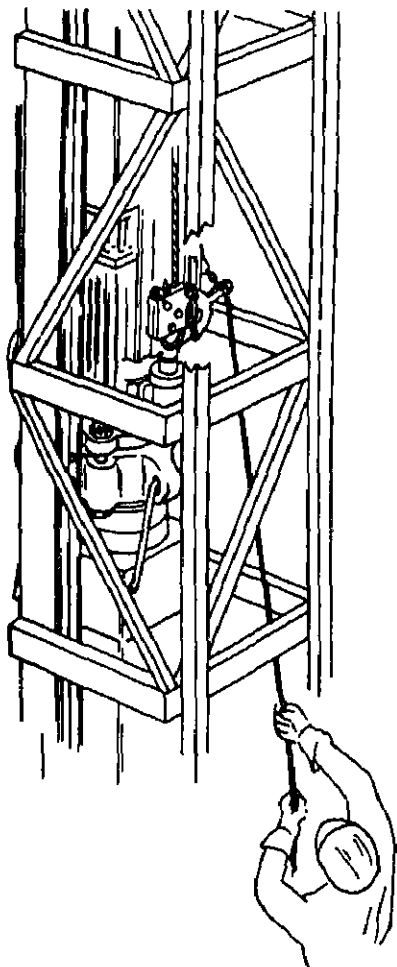

FIG. 9-5
- (1) Make sure throttle hose is clear of leads.
- (2) Make sure latch release rope is properly installed and is clear as Hammer is raised. Refer to Fig. 9-5.
- (e) Pull down on latch release rope fully and hold (by ground crew). Refer to Fig. 9-5.